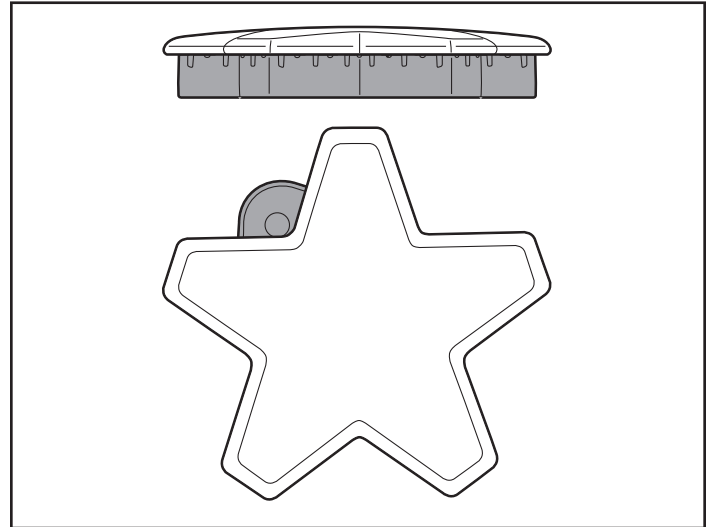

Figure 13: Correct STAR Burner Cap Placement
- Check each STAR burner to make sure there is no gap between the burner cap and burner base. See *Figures 13 and 14 : Correct and Incorrect STAR Burner Cap Placement* to see examples of correct and incorrect placements of the burner cap.